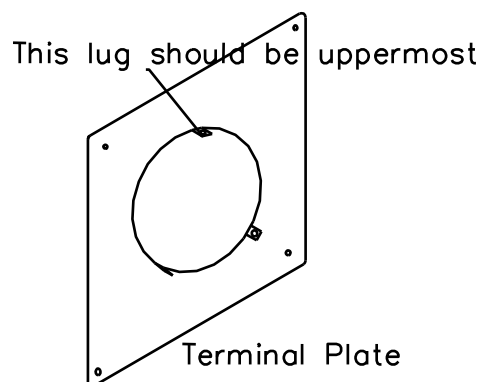
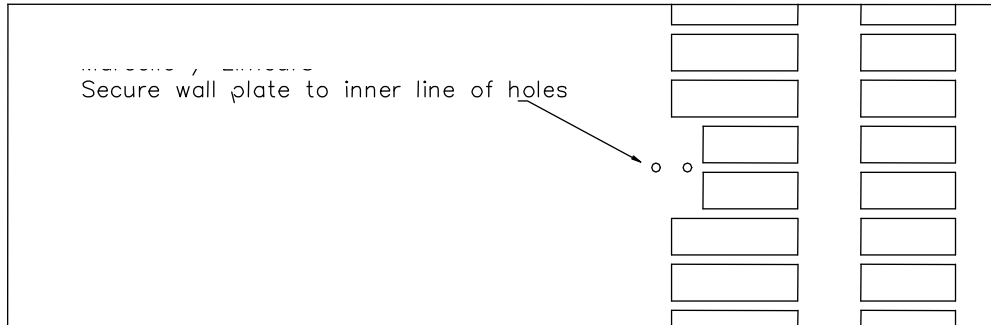

Figure 3
Figure 4
from the outside. Apply mastic to the rear face of the Terminal plate and fix to the wall using screws and wall plugs. Make sure the plate is fixed the correct way up. (See Figure 3) Slide the flue further into the wall until the tabs on the wall plate line up with the holes in the outer flue tube. Temporarily fix the tube to the wall plate with the self tapping screws provided. Use the inner holes as shown in Figure 4.
- 3 Thread the outside wall plate onto the flue and push the flue into the wall from the outside. Apply mastic to the rear face of the wall plate and fix to the wall using screws and wall plugs. Make sure the plate is fixed the correct way up. (See Figure 3) Slide the flue further into the wall until the tabs on the wall plate line up with the holes in the outer flue tube. Temporarily fix the tube to the wall plate with the self tapping screws provided. Use the inner holes as shown in Figure 4.